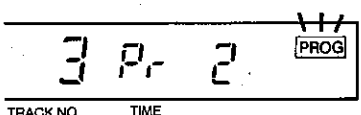

Fig. 13d
5. Press "3". The TRACK NO. display shows "3". The PROG indicator will blink. (Fig. 13d)